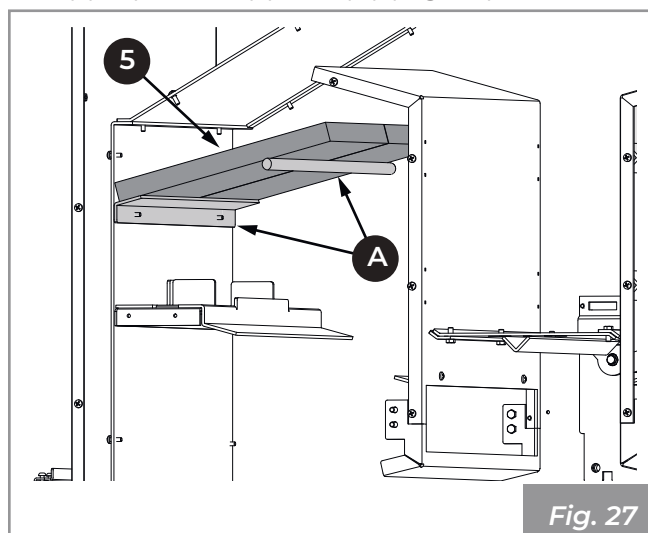

Fig. 27
- 2) Position the panels ((5) resting them on the appropriate supports (A) (Fig. 27).